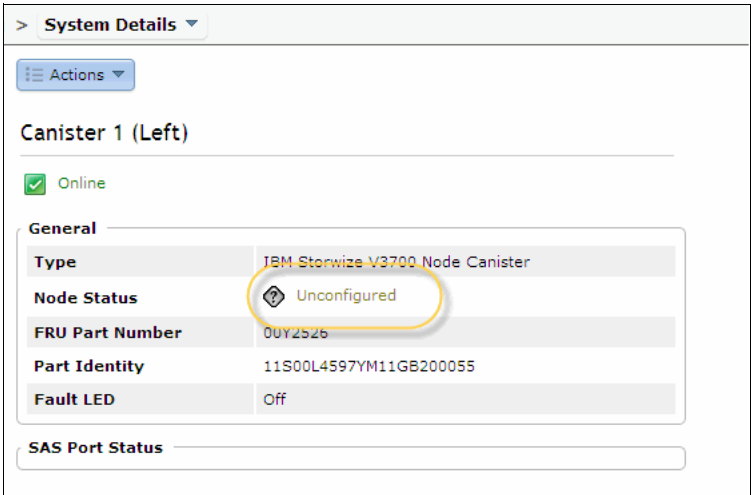

Figure 9-36 Node get status unconfigured
6. In System Details, the node is shown as not configured, as shown in Figure 9-36.